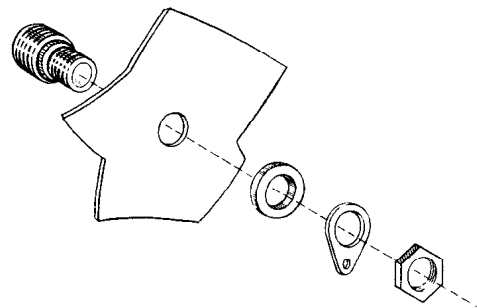

Figure 8
- () Mount the three shielded connectors in the holes marked AF IN, AF OUT, and RF OUT. See Figure 8 for method of mounting.